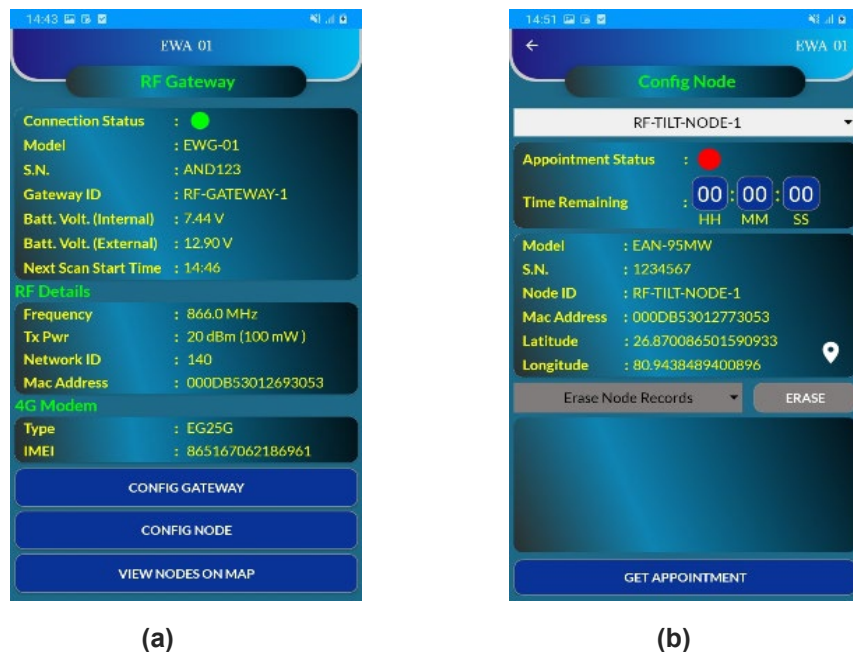

Figure 7-3
- Click on the tab "CONFIG NODE" from the main menu. A screen as shown in figure 7-3 (b) will appear.